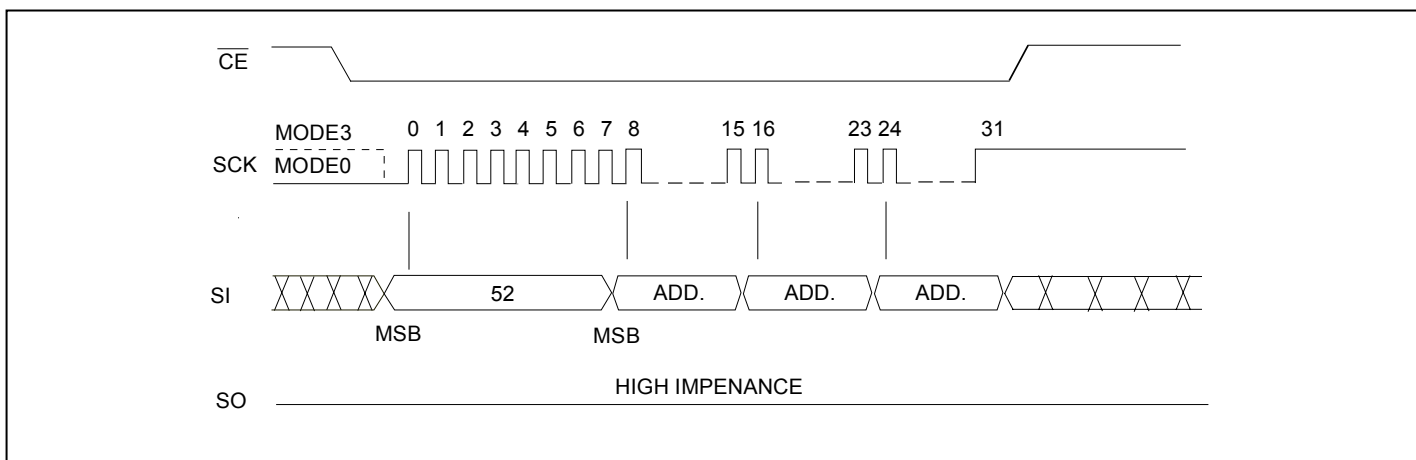

Figure 14: 32K-byte Block Erase Sequence
-A0]. Address bits [AMS-A15] (AMS = Most Significant address) are used to determine the block address (BAX), remaining address bits can be VIL or VIH.  $\overline{CE}$  must be driven high before the instruction is executed. The user may poll the BUSY bit in the Software Status Register or wait TBE for the completion of the internal self-timed Block Erase cycle. See Figure 14 for 32K Byte Block Erase sequence.